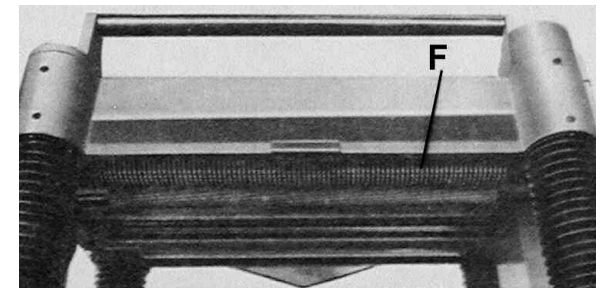

FIGURE 23
Anti-kickback fingers (F) Fig.23 are provided for your safety to prevent workpiece kickbacks. These fingers operate by gravity and it is necessary to inspect them occasionally to make sure they are free of gum and pitch so that they can move independently and operate correctly.